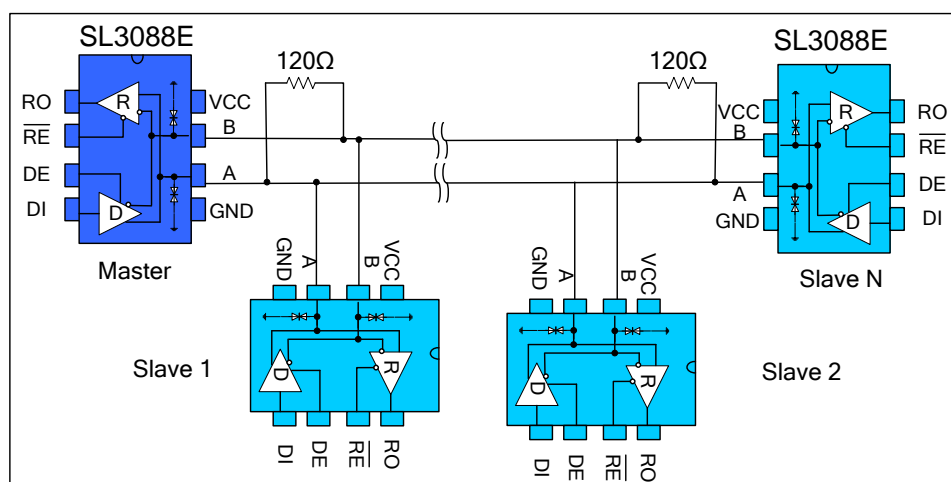

Figure 9 Bus type RS485 halfduplex communication network
4.1 Bus Networking: SB088E RS485 transceiver is designed for bidirectional data communication on multi-point bus transmission line. Figure 9 shows a typical network application circuit. These devices can also be used as linear repeaters with cables longer than 4000 feet. In order to reduce reflection, terminal matching should be carried out at both ends of the transmission line with its characteristic impedance, and the length of branch lines outside the main line should be as short as possible.